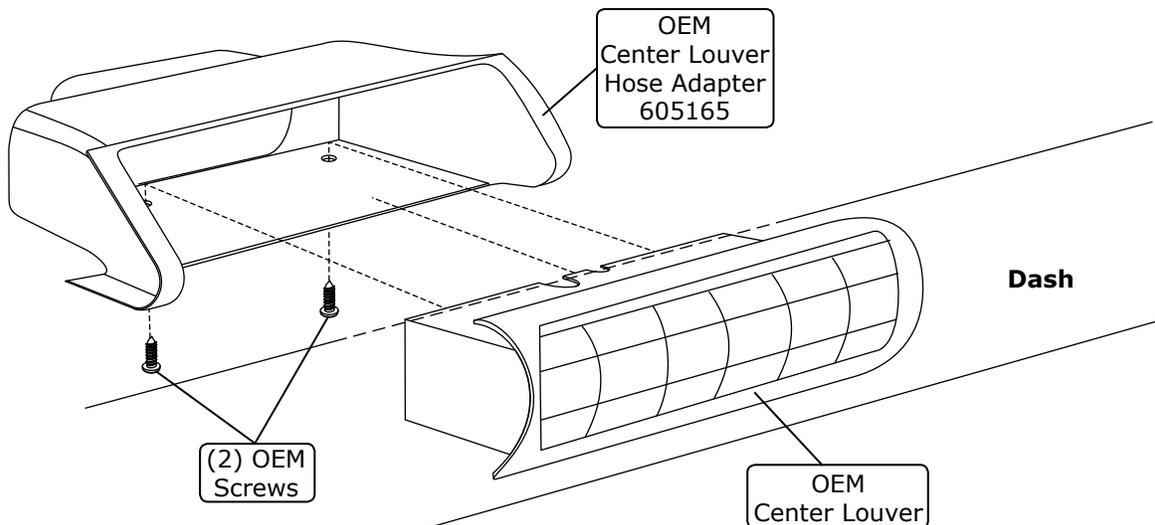

Figure 11b
1. Install the center louver hose adapter onto the OEM center louver, and secure using (2) OEM screws as shown in Figure 11b, below.